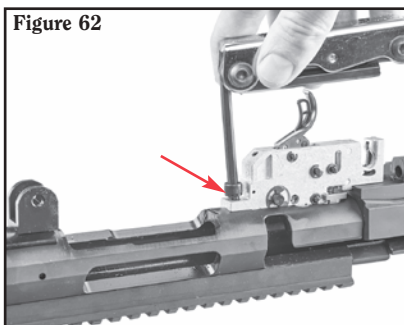

Figure 62
1. Using a 3/16" Allen wrench remove the bolt at the front of the trigger assembly. (See Figure 62.)
- c. Using a 3/16” Allen wrench, tighten the front trigger assembly screw. (See Figure 62, p. 43.)